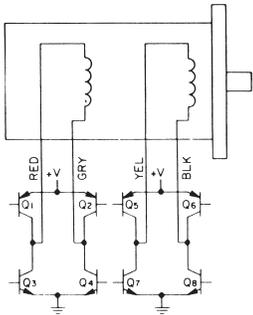

Fig. 8-3 Bipolar Method
**Bipolar Winding** - the stator flux is reversed by reversing the current in the winding. It requires a push-pull bipolar drive as shown in Fig. 8-3. Care must be taken to design the circuit so that the transistors in series do not short the power supply by coming on at the same time. Properly operated, the bipolar winding gives the optimum performance at low to medium step rates.